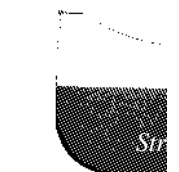

Fig. 2
slot of the arm rest strap into the strap slot from the front (Fig. 2) of the table until it all the way through until the buckle fastened to the other end of the slot. Be sure that the writing printed on the buckle is facing the front padding. See Fig. 1 & 2
ends of the *quick release buckle* together around the cross bar of the QuickLock™ face rest. See *Fig. 2*
To raise or lower the Arm Rest Shelf, pull on the strap to raise the Arm Rest Shelf or pull on the strap to lower it. See *Fig. 1*. When completed your arm rest will be attached to your table as seen in *Fig. 2 inset*.
1. Snap the two ends of the *quick release buckle* together around the cross bar of the QuickLock™ face rest. See *Fig. 2*
2. To adjust your Arm Rest Shelf, pull on the strap to raise the Arm Rest Shelf or pull on the strap to lower it. See *Fig. 1*. When completed your arm rest will be attached to your table as seen in *Fig. 2 inset*.